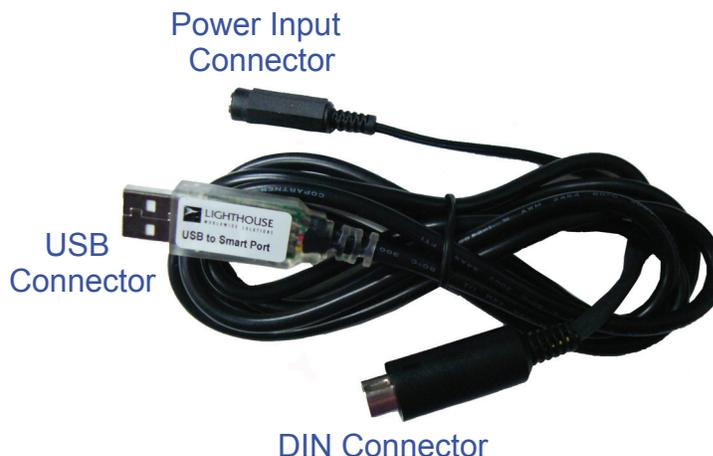

Figure 3-1 *SmartPort* cable Connections
3. Refer to Figure 3-1 and insert the *SmartPort* cable's USB connector into a USB port on the computer. The computer should acknowledge the cable and report that it has found a new device, a Serial USB cable, and is installing its drivers. A COM port will be assigned to the cable.